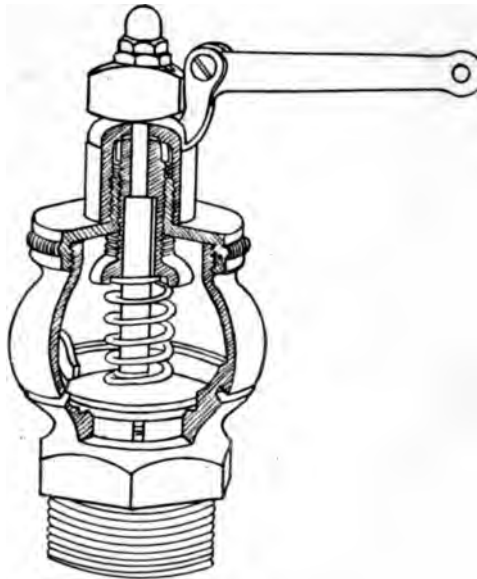

Fig. 7.—Pop Safety Valve.
A. The safety valve (Fig. 7) should be located at the top of the boiler and it is used to relieve excessive pressure of steam when the pressure has accumulated to a point considered dangerous.